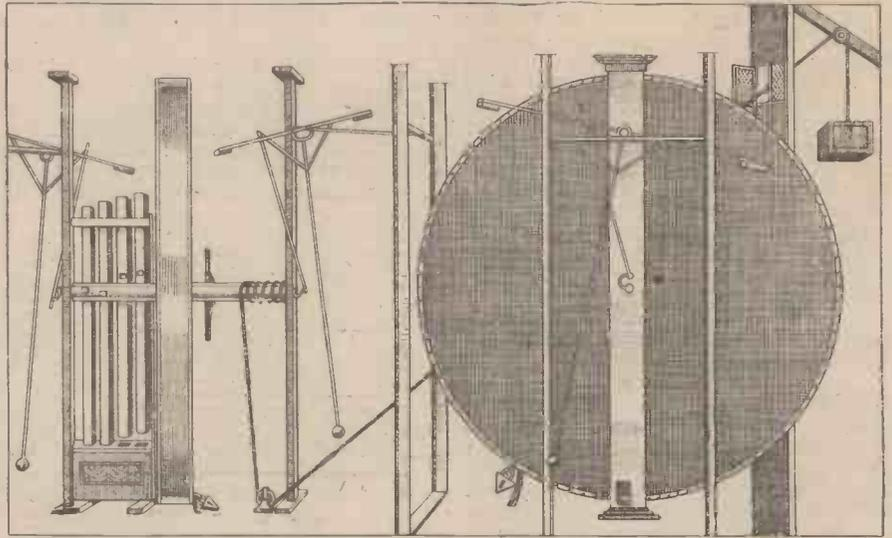

Fig. 1.—The original Orffyreus wheel (from an old print).
**A**MONGST the many "perpetual motion" devices which have been produced by harmless but well-meaning "cranks" in the past is the wheel made and exhibited by Councillor Orffyreus in 1717. Previous to this Orffyreus had constructed three other wheels of smaller diameter, but his last and largest wheel was 12ft. in diameter. This strange machine, which is illustrated in Fig. 1, is a hollow drum of very light construction, about 14in. thick and covered with canvas. Through the centre of this wheel or drum runs an axle of about 6in. diameter, terminating at both ends in iron axles of about 3in. diameter upon which the machine turns. It is on record that this wheel revolved freely at 26 revolutions per minute, and by means of a cord tied to an axle was capable of turning an Archimedean screw for raising water. It is also stated that an official test of the machine took place from November, 1717 to January, 1718, when the room containing the revolving wheel was securely locked and the windows sealed. At the end of the test the seals were broken and the room opened, when it was found that the wheel was revolving with its accustomed regularity. Some time after this test Orffyreus, in a fit of rage, destroyed the machine, the working of which remained a mystery.